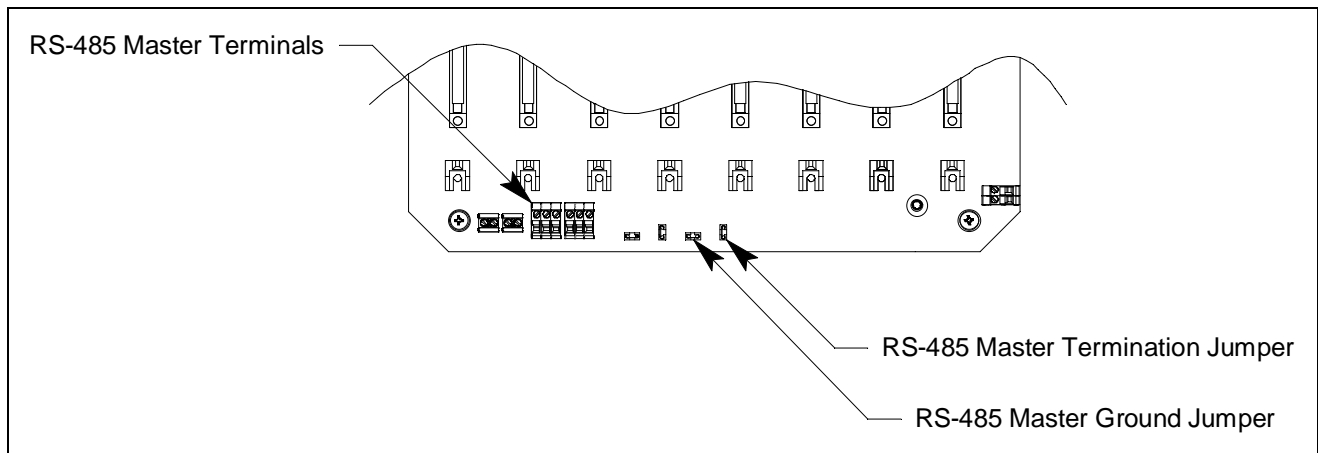
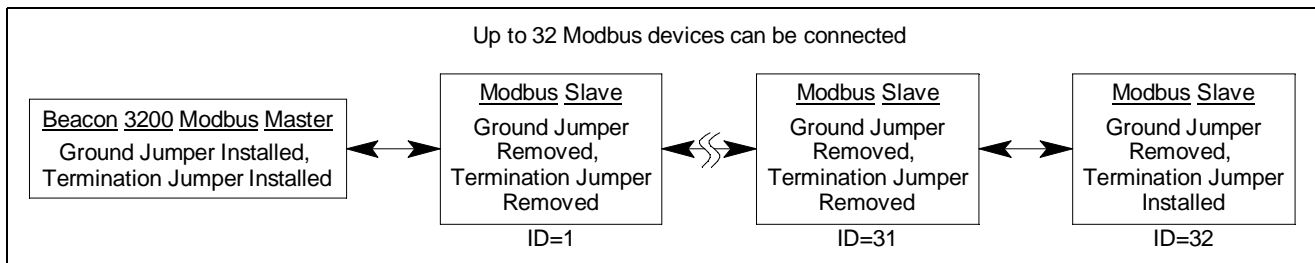

Figure 15: Modbus Master Terminal and Jumper Locations
Figure 18: Jumper Configuration
2. Configure the ground and termination jumpers (locations shown in Figure 15) as shown in Figure 18.